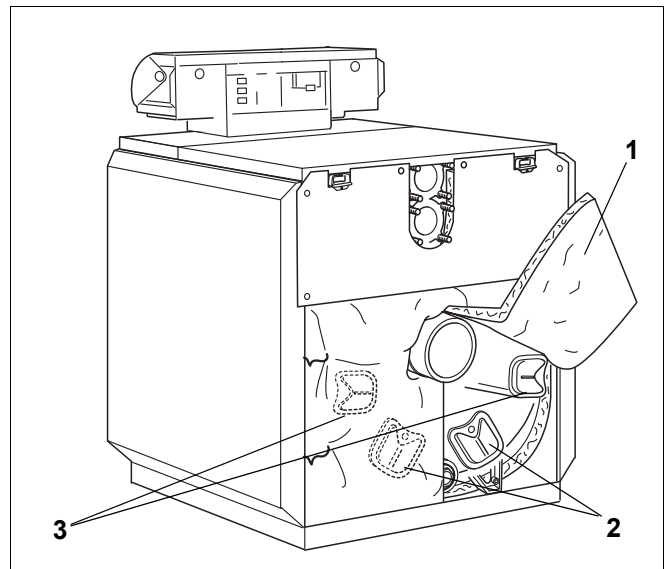

Fig. 55 Cleaning cover removal
- Pivot the thermal insulation on the rear section and draw together below the flue gas coupling using a spring hook (Fig. 55, **Item 1**).